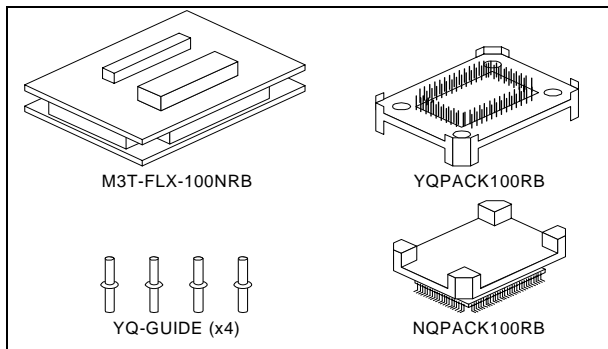

Figure 1 Package components of the M3T-FLX-100NRB
2. Package Components (See Figure 1)